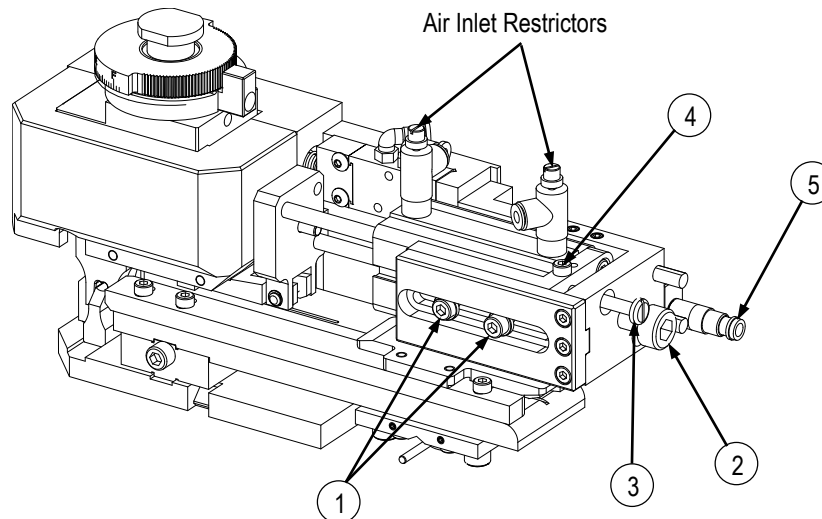

Figure 4
The terminal strip is fed into the applicator from the end to front. The terminal wire barrel is rotated at 90° in relationship to the strip guides (side-feed terminal) with the wire barrel crossed in front of the operator. The strip passes under the strip drag as well as between the front and rear strip guides. The rear strip guide aligns with the terminal carrier strip. The lead terminal is positioned over the anvil (for PRE-FEED applications). Pre-feed applicators feed terminals as the ram moves up. The feed finger feeds one terminal during each cycle of the terminating machine. The terminals are fed by the action of the air feed mechanism which is actuated by compressed air. Refer to Paragraphs 5.4 and 5.5 for air feed unit adjustment. Also refer to Figure 4.
4. Adjust the terminal feed as follows (Figure 4):
- a. Loosen screws (01) and (04).
- b. Rotate screw (02). (With the cylinder actuated, feed the terminal on top of the anvil.)
- c. Fasten (tighten screw) (01).
5. Adjust the terminal feed pitch as follows (Figure 4):
- a. Close the air of the compress plug (05).
- c. Rotate screw (03) "up" so that it touches at the cylinder shaft's guide (to control the cylinder shaft return).
- d. Fasten (tighten) screw (04).
The feed mechanism has been adjusted at the factory to ensure that the terminal is advanced at the lowest possible speed. In rare occasions, it is possible that the feed speed is not fast enough, if the applicator is used on a fully automatic machine. The feed speed can be adjusted by the two air inlet restrictors (Figure 4). The air inlet restrictors control the feed and return stroke.